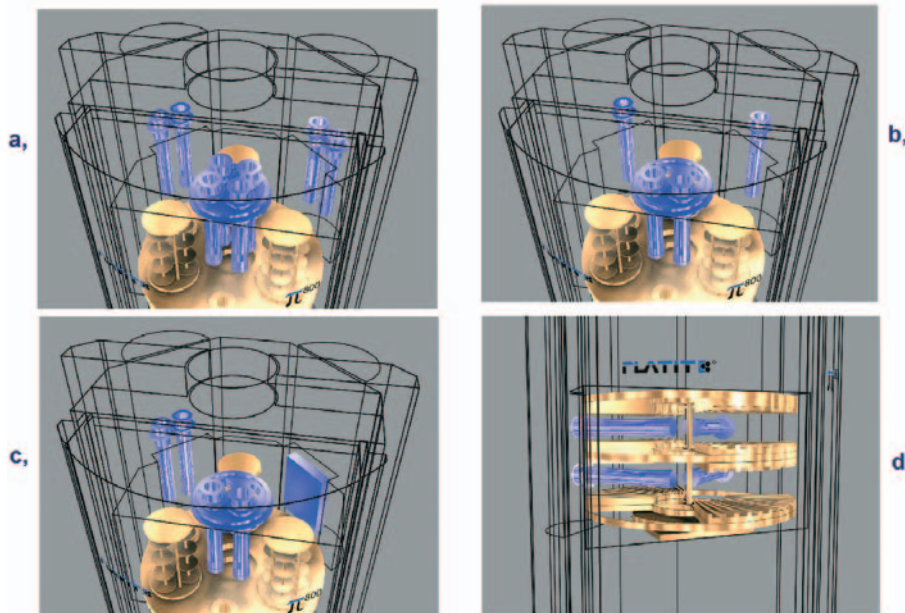

Fig. 17:
- ▷ The modular upgrading in width (not in height) is the correct way, because that way the same cathodes can be used modularly (figure 17):